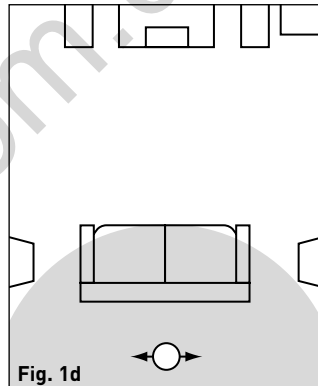

Fig. 1d
6.1 Rear Placement Using One P80-SM Speaker (Fig. 1d)